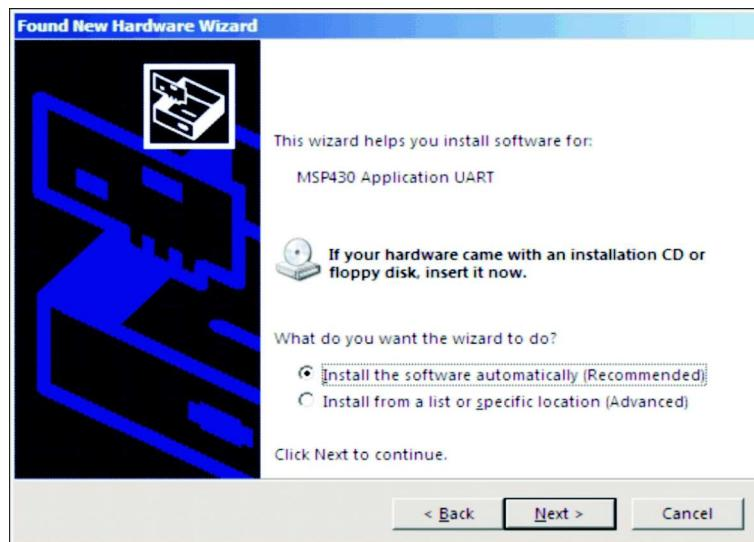

Figure 9. Found New Hardware Wizard, Step 2
6. Select Install the software automatically (Recommended), if IAR KickStart R4.64 or higher has already been installed (see Figure 9).